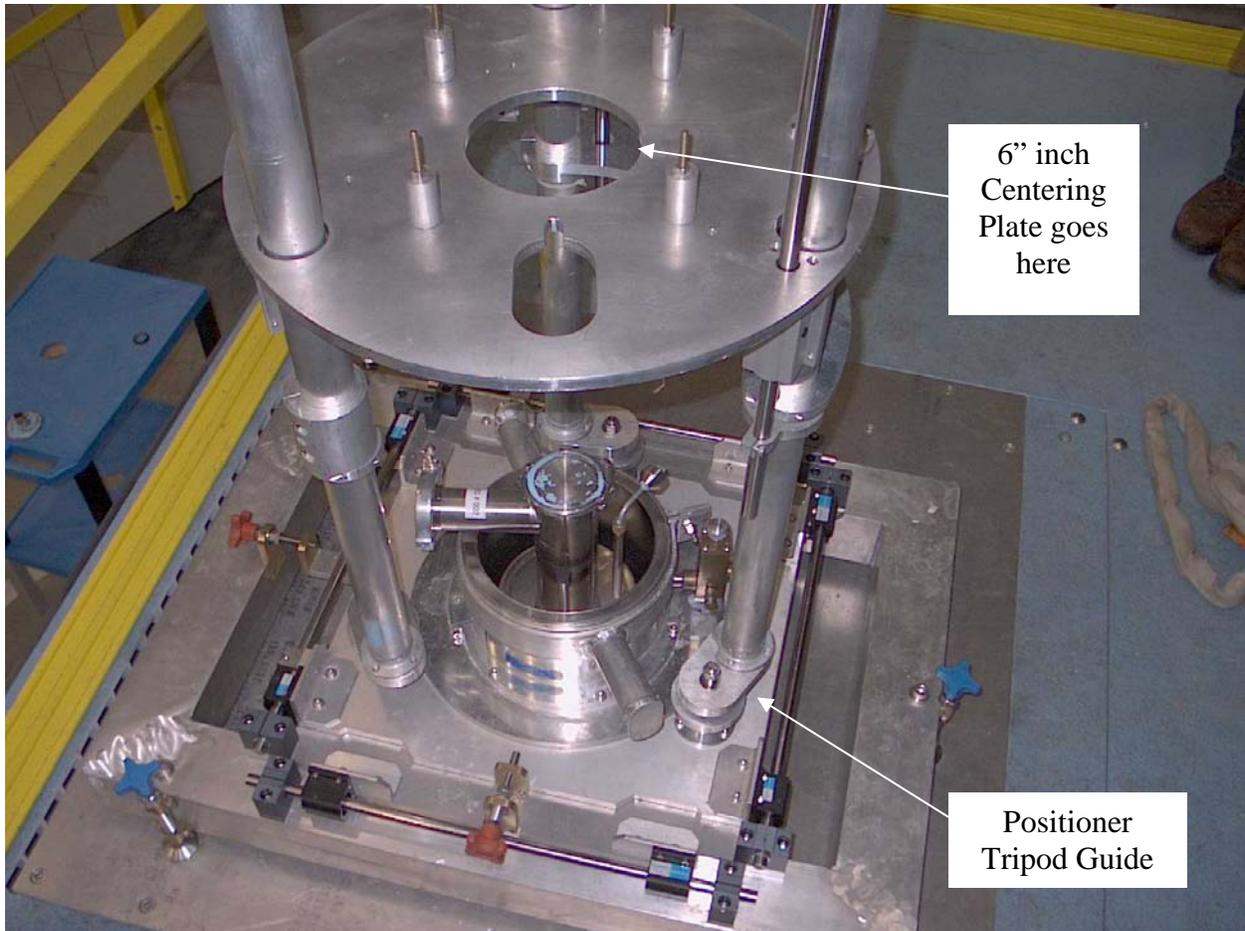

Figure 3 (Dewar cradle alignment/VSM transfer slot)
1. Install Dewar into positioner and center, use Figure 3 as an installation setup guide. The VSM transfer slot must be aligned with the He transfer tubing to allow for He transfers. Proper alignment is required only for cryogenic operations. (Reference Data Mac Computers/ Apple menu/ help/ dewar positioner guide)
3. Mount the VSM tripod See Figure 4. The transfer slot should be located directly over a LHe transfer tube. See Figure 3.
4. The VSM tripod feet should align with positioner tripod guides. See Figures 3 and 5.
5. Place the 6" centering plate on the VSM tripod top plate, see Figure 3. Center the top plate with respect to the probe head, using 6" centering plate as a guide. Center the top plate by adjusting the three turn wheels on each tripod leg. Be careful not to use the screws on the support stand. The 6" centering plate can be removed once centering is complete.